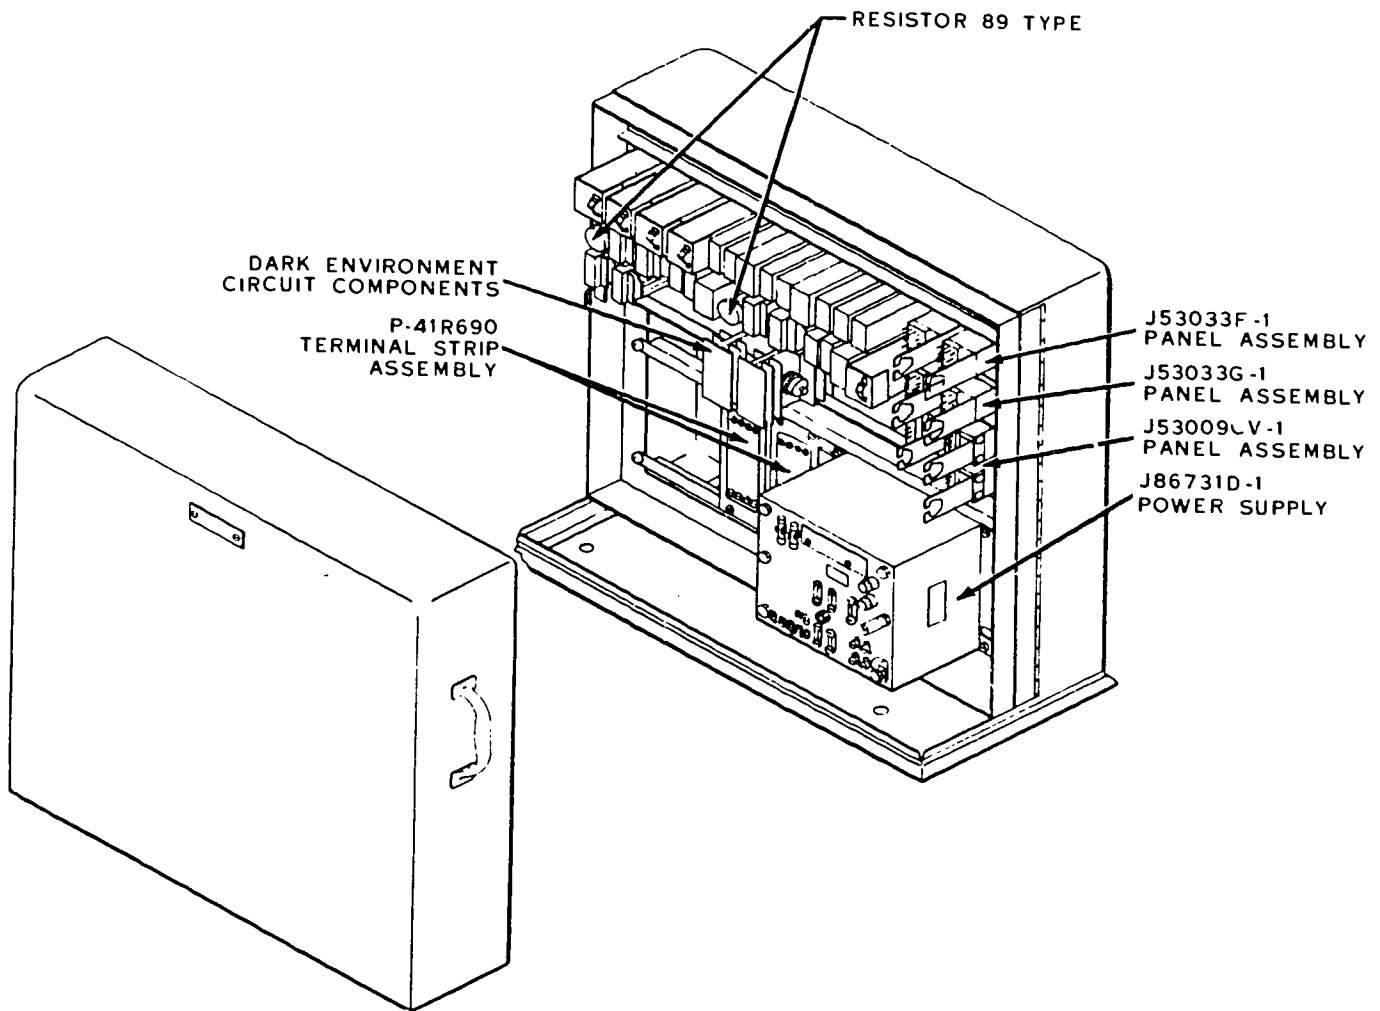

Figure 5-8. Control tower apparatus cabinet.
TB3, TB4 and other devices. Duplicate units for other positions are included on the rear of this gate. Additional units are installed there, too. For instance, the J53033S (PBX or central office signaling) unit and a ringing source are placed there. Figure 5-8 illustrates a telephone relay rack of a control tower. Again, the equipment units are identified in the manner already described. For example, equipment J53033F includes relays AC(1), AC(2), AC(3), and AC(4) and associated devices.